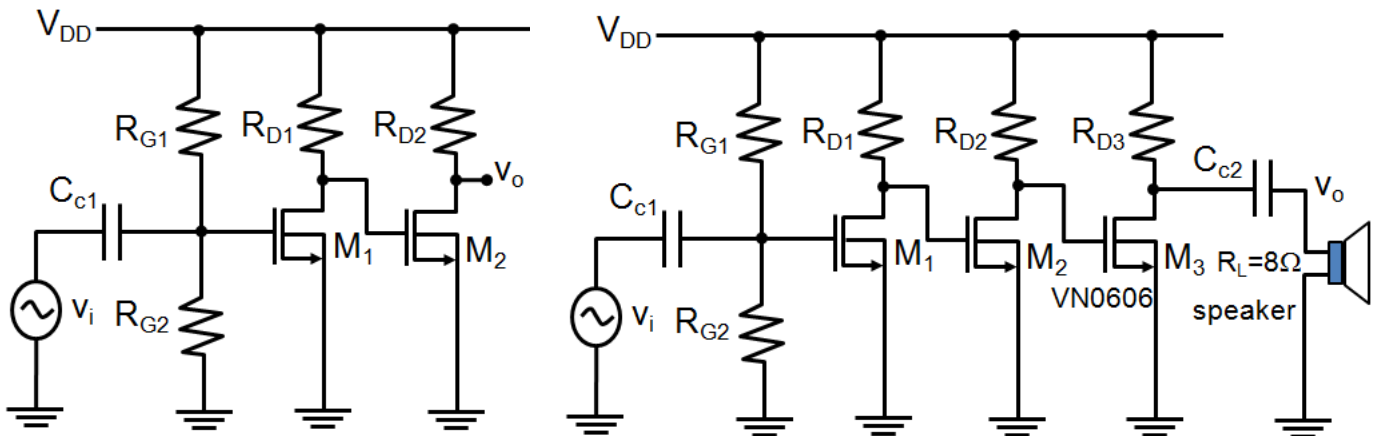

Fig. 6: (a) A cascade two-stage CS amplifier. (b) The complete speaker driving circuit.
1. You are required to build a speaker driving circuit using a cascade three-stage common-source amplifier as shown in Fig. 6(b). You will have to use the CD4007UB MOSFET array and the power transistor VN0606 to build the first two stages and the output stage, respectively. The first two-stage amplifier is shown in Fig. 6(a). Based on the experience obtained in Part I, please design the bias point of M1 through R_{G1} and R_{G2} , and design the load resistors R_{D1} and R_{D2} to have a combined gain of at least 50 (V/V) for the first two stages. Set the power supply voltage to 5.0 V. Perform hand calculation and compare with the measured results. Check if the upper -3dB frequency is larger than 20 kHz.
2. You are advised to extract the VN0606 transistor model (e.g. threshold voltage) by i - v measurements as performed in Lab 6, in order to design the last stage of the speaker driving circuit as shown in Fig. 6(b). The complete circuit has to achieve a total gain of at least 25. Describe your design process below.